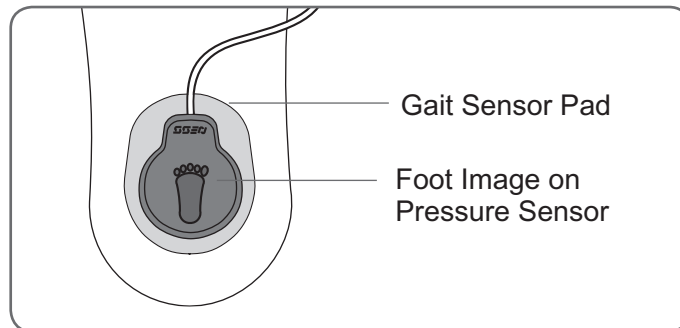

Figure 37: Positioning the pressure sensor in the shoe
3. Point the wire of the pressure sensor toward the toe of the shoe. Then, attach the pressure sensor to the Gait Sensor pad. See Figure 37. Refer to the foot image on the pressure sensor for positioning.